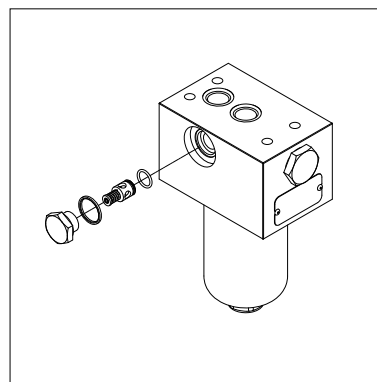

fig. 24
- (Fig. 24) Replace the O-rings of the indicator body